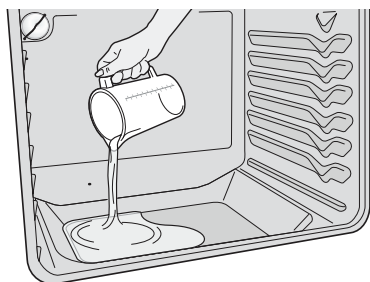

Figure 11: Pour water onto the oven bottom
3. Pour 8 oz (235 ml) of distilled or filtered water onto the oven bottom (See Figure 11). Close the oven door.